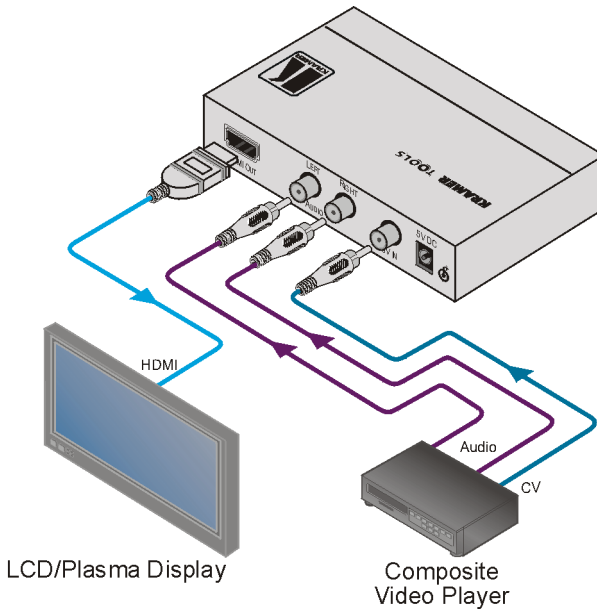

Figure 2: Connecting the VP-410 Video-Audio to HDMI Scaler
To connect your VP-410 as illustrated in the example in Figure 2:
3. Connect the +5V DC power adapter to the power socket and connect the adapter to the mains electricity (not shown in Figure 2).